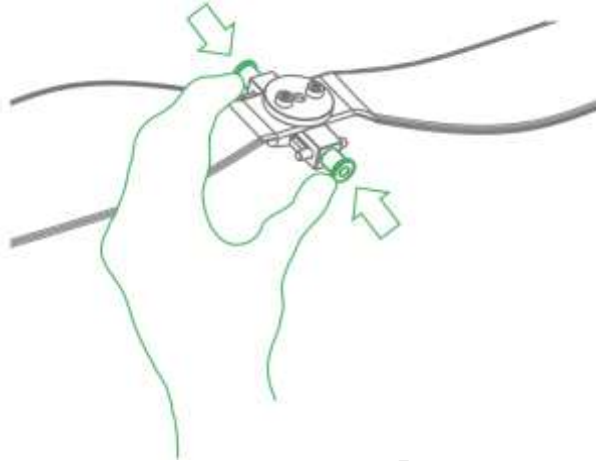

Figure 5-8
Step 1 Press the spring fastener on both sides of the propeller center, and remove the propeller, as shown in Figure 5-8.